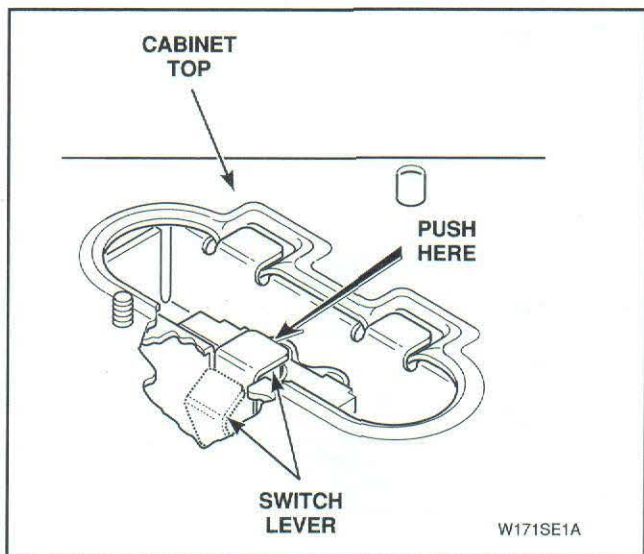

Figure 31
- Move switch lever off switch plunger, *Figure 31*, by moving lever back under cabinet top.